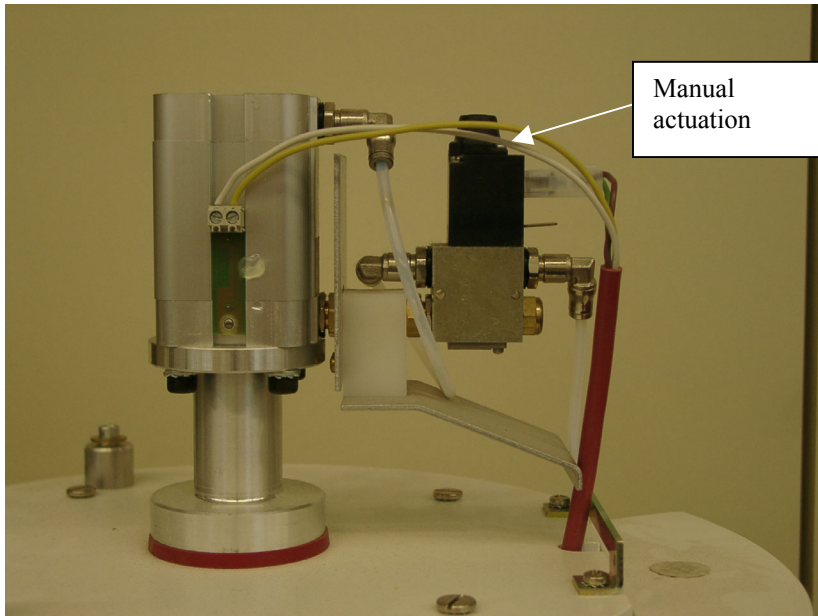

Fig. 1
- Actuate the magnetic valve manually (see Fig. 1).